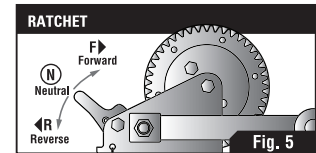

Fig. 5
1. **To pull line off:** First place the ratchet in reverse or neutral position. (Fig. 5) To pull line off the winch, extreme caution should be used. Never let go of the handle. Be certain that all people and objects are clear of the area to ensure that they will not be struck and injured by a spinning winch handle as you pull line off the winch.